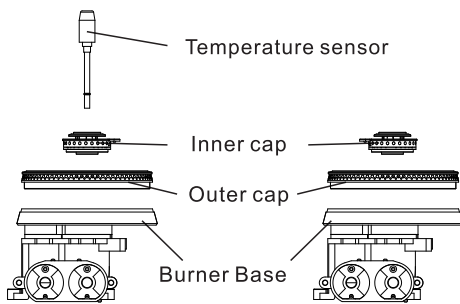

Fig.10
- When cleaning the burner, ensure that all the flame ports, injector hole and other holes are free of any blockage. (Fig.10 / 11)